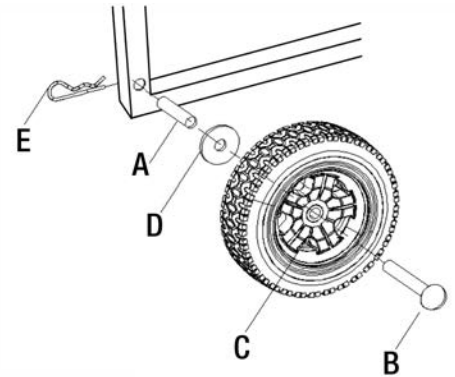

Figure 2
To install a wheel (C) Fig.2 to the right end of the frame, first insert the bushing (A) into the mounting hole in the frame. Insert bolt (B) through the wheel, then slide washer (D) on opposite side of the wheel. Insert bolt through the bushing and mounting hole in the frame. Secure the wheel by inserting a retaining clip (E) into the hole in the end of the bolt. Repeat for the second wheel.